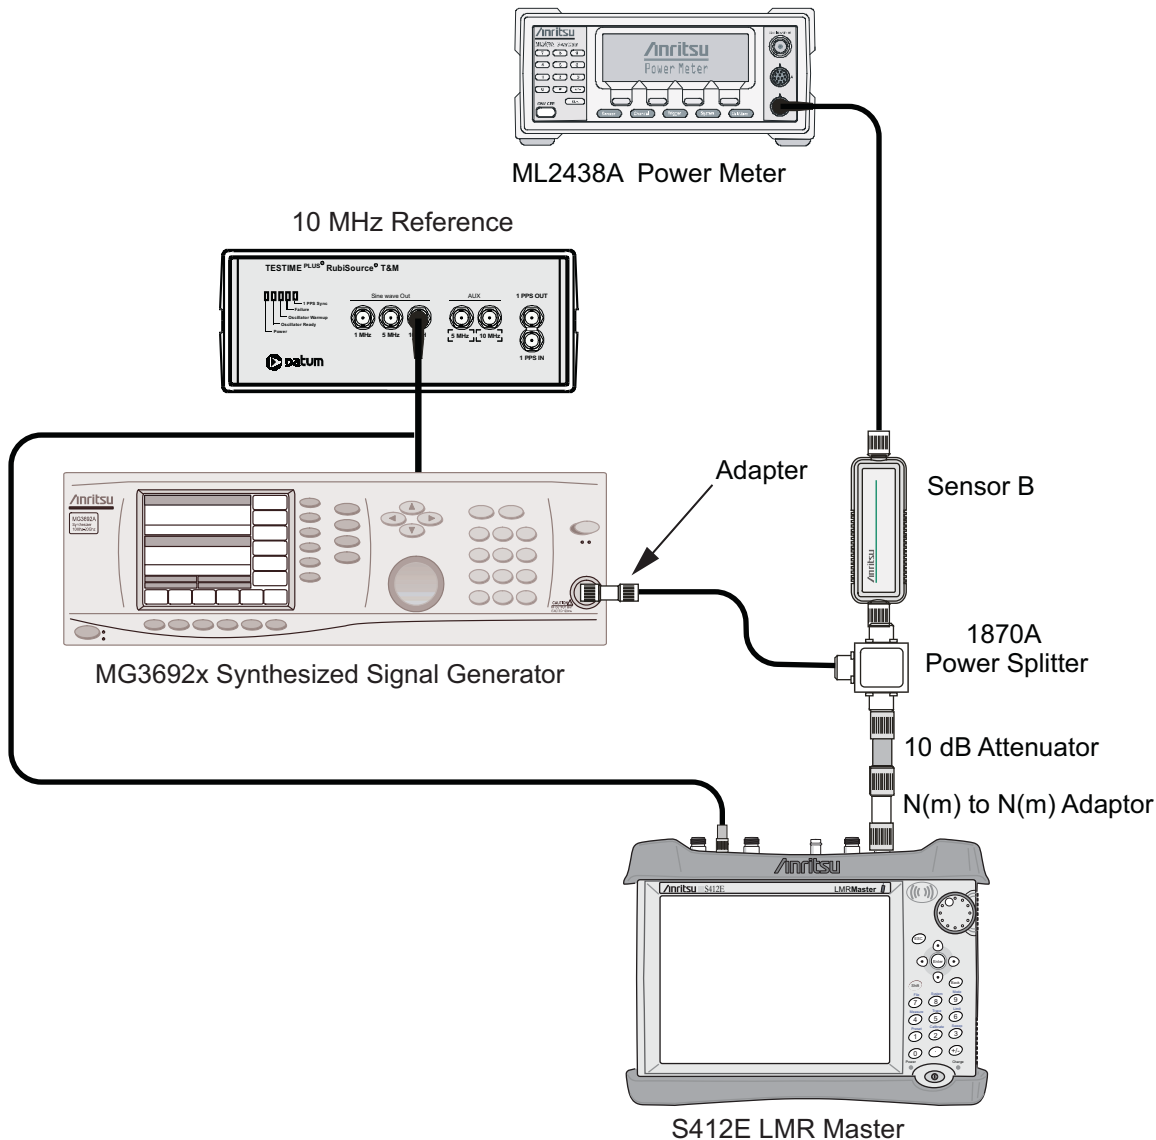

Figure 3-2. Amplitude Accuracy Verification Test Setup
2. Connect the open end of the 34NN50A Adapter to the RF In connector of the S412E as shown in Figure 3-2.
2. Connect the open end of the 34NN50A Adapter to the RF In connector of the S412E as shown in Figure 3-2 on page 3-14.
3. On the S412E, press the **Shift** key and then the **Mode (9)** key. Use the rotary knob to highlight Spectrum Analyzer and then press the **Enter** key to switch to Spectrum Analyzer mode.
4. Preset the S412E by pressing the **Shift** key, then the **Preset (1)** key, then the **Preset** button on the touchscreen. Using the Sweep menu, change the Sweep Mode to Performance.